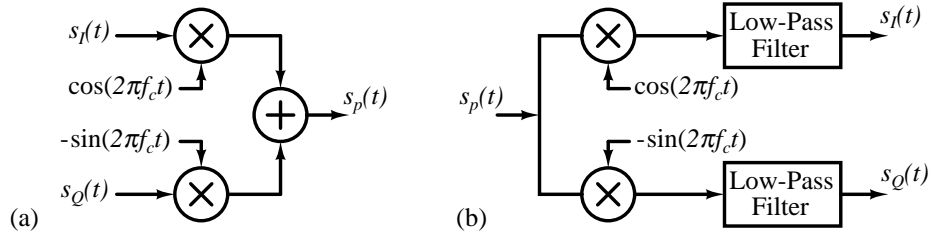

Figure 1: Flowgraph of (a) an IQ modulator, and (b) an IQ demodulator.
- a. **Carrier Feedthrough:** The multipliers shown in Fig. 1 are implemented using double-balanced mixers (recall Experiment 3). Recall that a single-balanced mixer always has the carrier frequency component at the output, but ideally it is zero in case of a double-balanced mixer, i.e. when the carrier frequency outputs from the two switching pairs perfectly cancel each other. However, DC offsets or device mismatches lead to improper cancellation and the appearance of the carrier frequency component at the double-balanced mixer output as well, as shown in Fig. 5a. This is called LO or carrier feed-through.